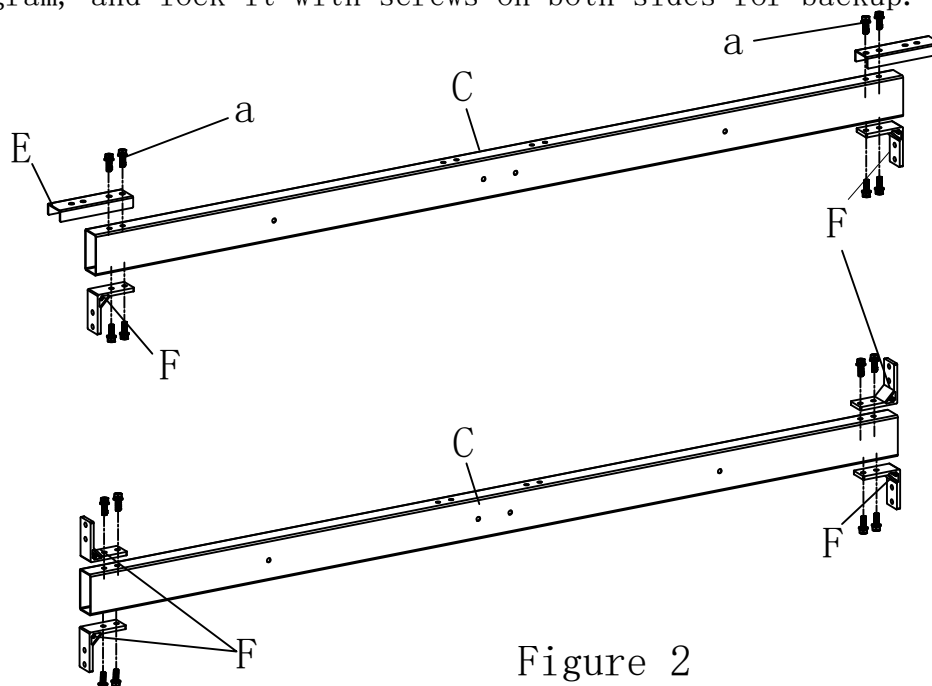

Figure 2
2.1.1 Take out the aluminum corner code and the connecting piece of the crossbeam, install it in combination with the two crossbeams as shown in the diagram, and lock it with screws on both sides for backup. (Figure 2)